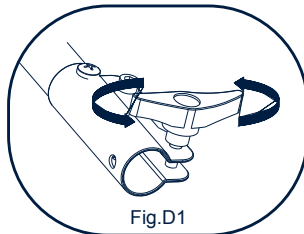

Fig.D1
-Loosen the clamp by turning the clamp knob counterclockwise. (See Fig. D1)